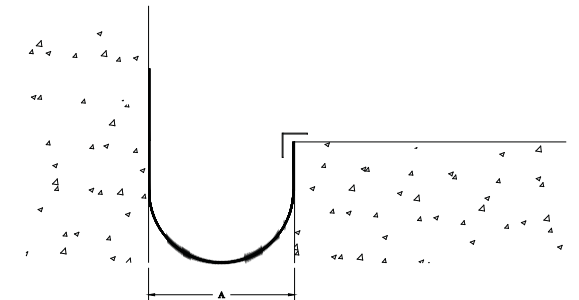

Figure 6
**STEP 6.** Select the single-sided microsealant tape. Place a continuous strip of the tape over the edge of the water barrier and onto the surface of the assembly, see Figure 6.